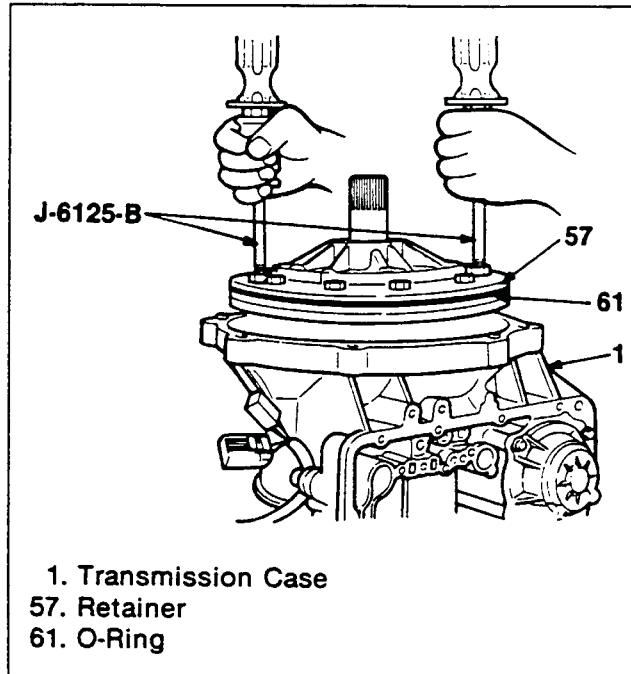

**Figure 286. Oil Pump Installation (1)**
#### Oil Pump (Figures 286, 287, 288 and 289)
1. Apply Vaseline to the O-ring around the oil pump outer surface and install the retainer (figure 286).